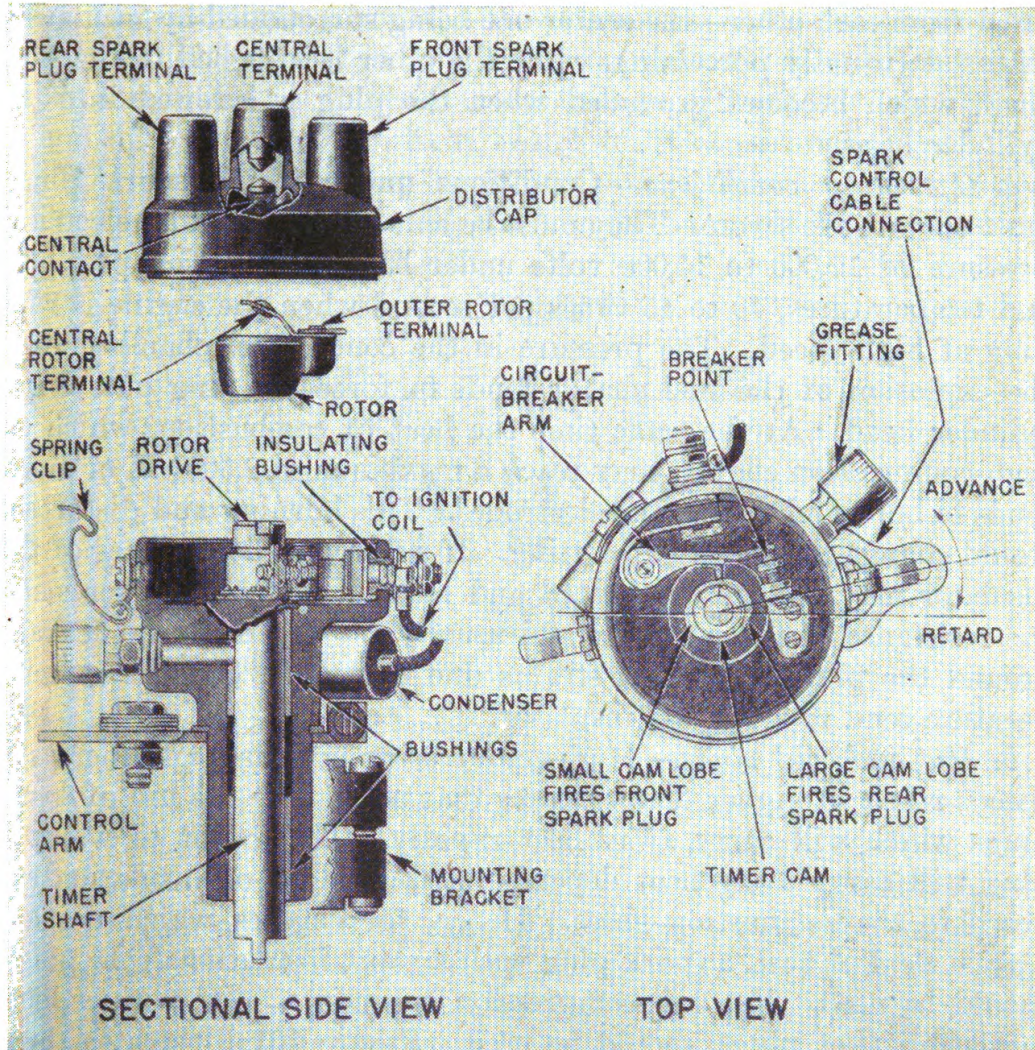

FIGURE 100.—Circuit-breaker and distributor assembly.
*a.* The Indian distributor shown in figure 100 is like a conventional automotive type distributor except that it has only two spark plug terminals. It is built at the upper end of the timer. It is mounted at the left side of the engine and is driven by an upper extension of the scavenger oil pump shaft. Its essential parts are a rotor and a cap.